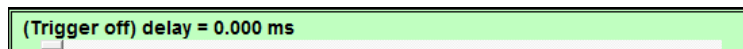

Fig. 6.2: Right-click this trigger delay box to access the Trigger Setup dialog.
In order to access the **Trigger Setup** dialog (Fig. 6.3b), right-click on the trigger delay box (Fig. 6.2) located below the 3D area or press **Ctrl T**.
2. Press **Ctrl T**, or right-click on the non-slider area of the **Trigger Control** box (Fig. 6.2), to open the dialog box shown in Fig. 6.3b, and select **Enable Auto-Trigger**.
6. Advance or delay the **Trigger Control** slider (Fig. 6.2) to change the timing of the capture in relation to the trigger pulse, until the whole pulse is captured.